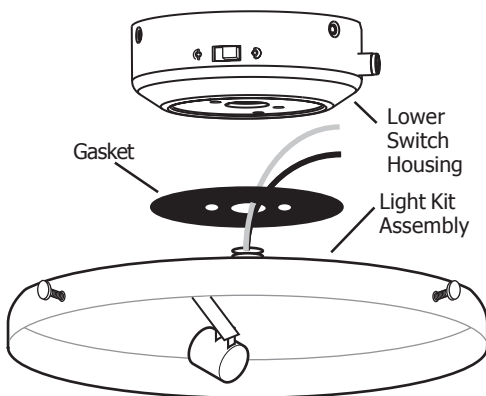

Figure 2 - Assembling the Light Kit
1. Insert the black wire and white wire from the light kit assembly through the hole in the gasket and the bottom of the lower switch housing. Refer to Figures 2.